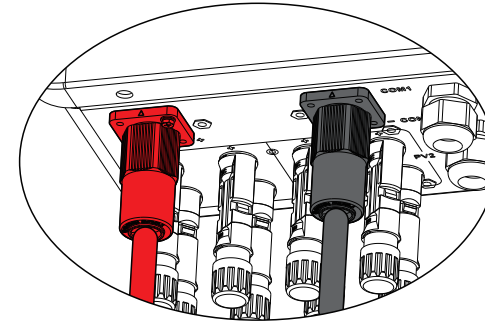

Figure 4.2-6 The battery terminal is connected to the inverter
**Step 5:** Connect the battery terminal to the inverter. Ensure that the battery polarity is connected correctly, as shown in Figure 4.2-6.